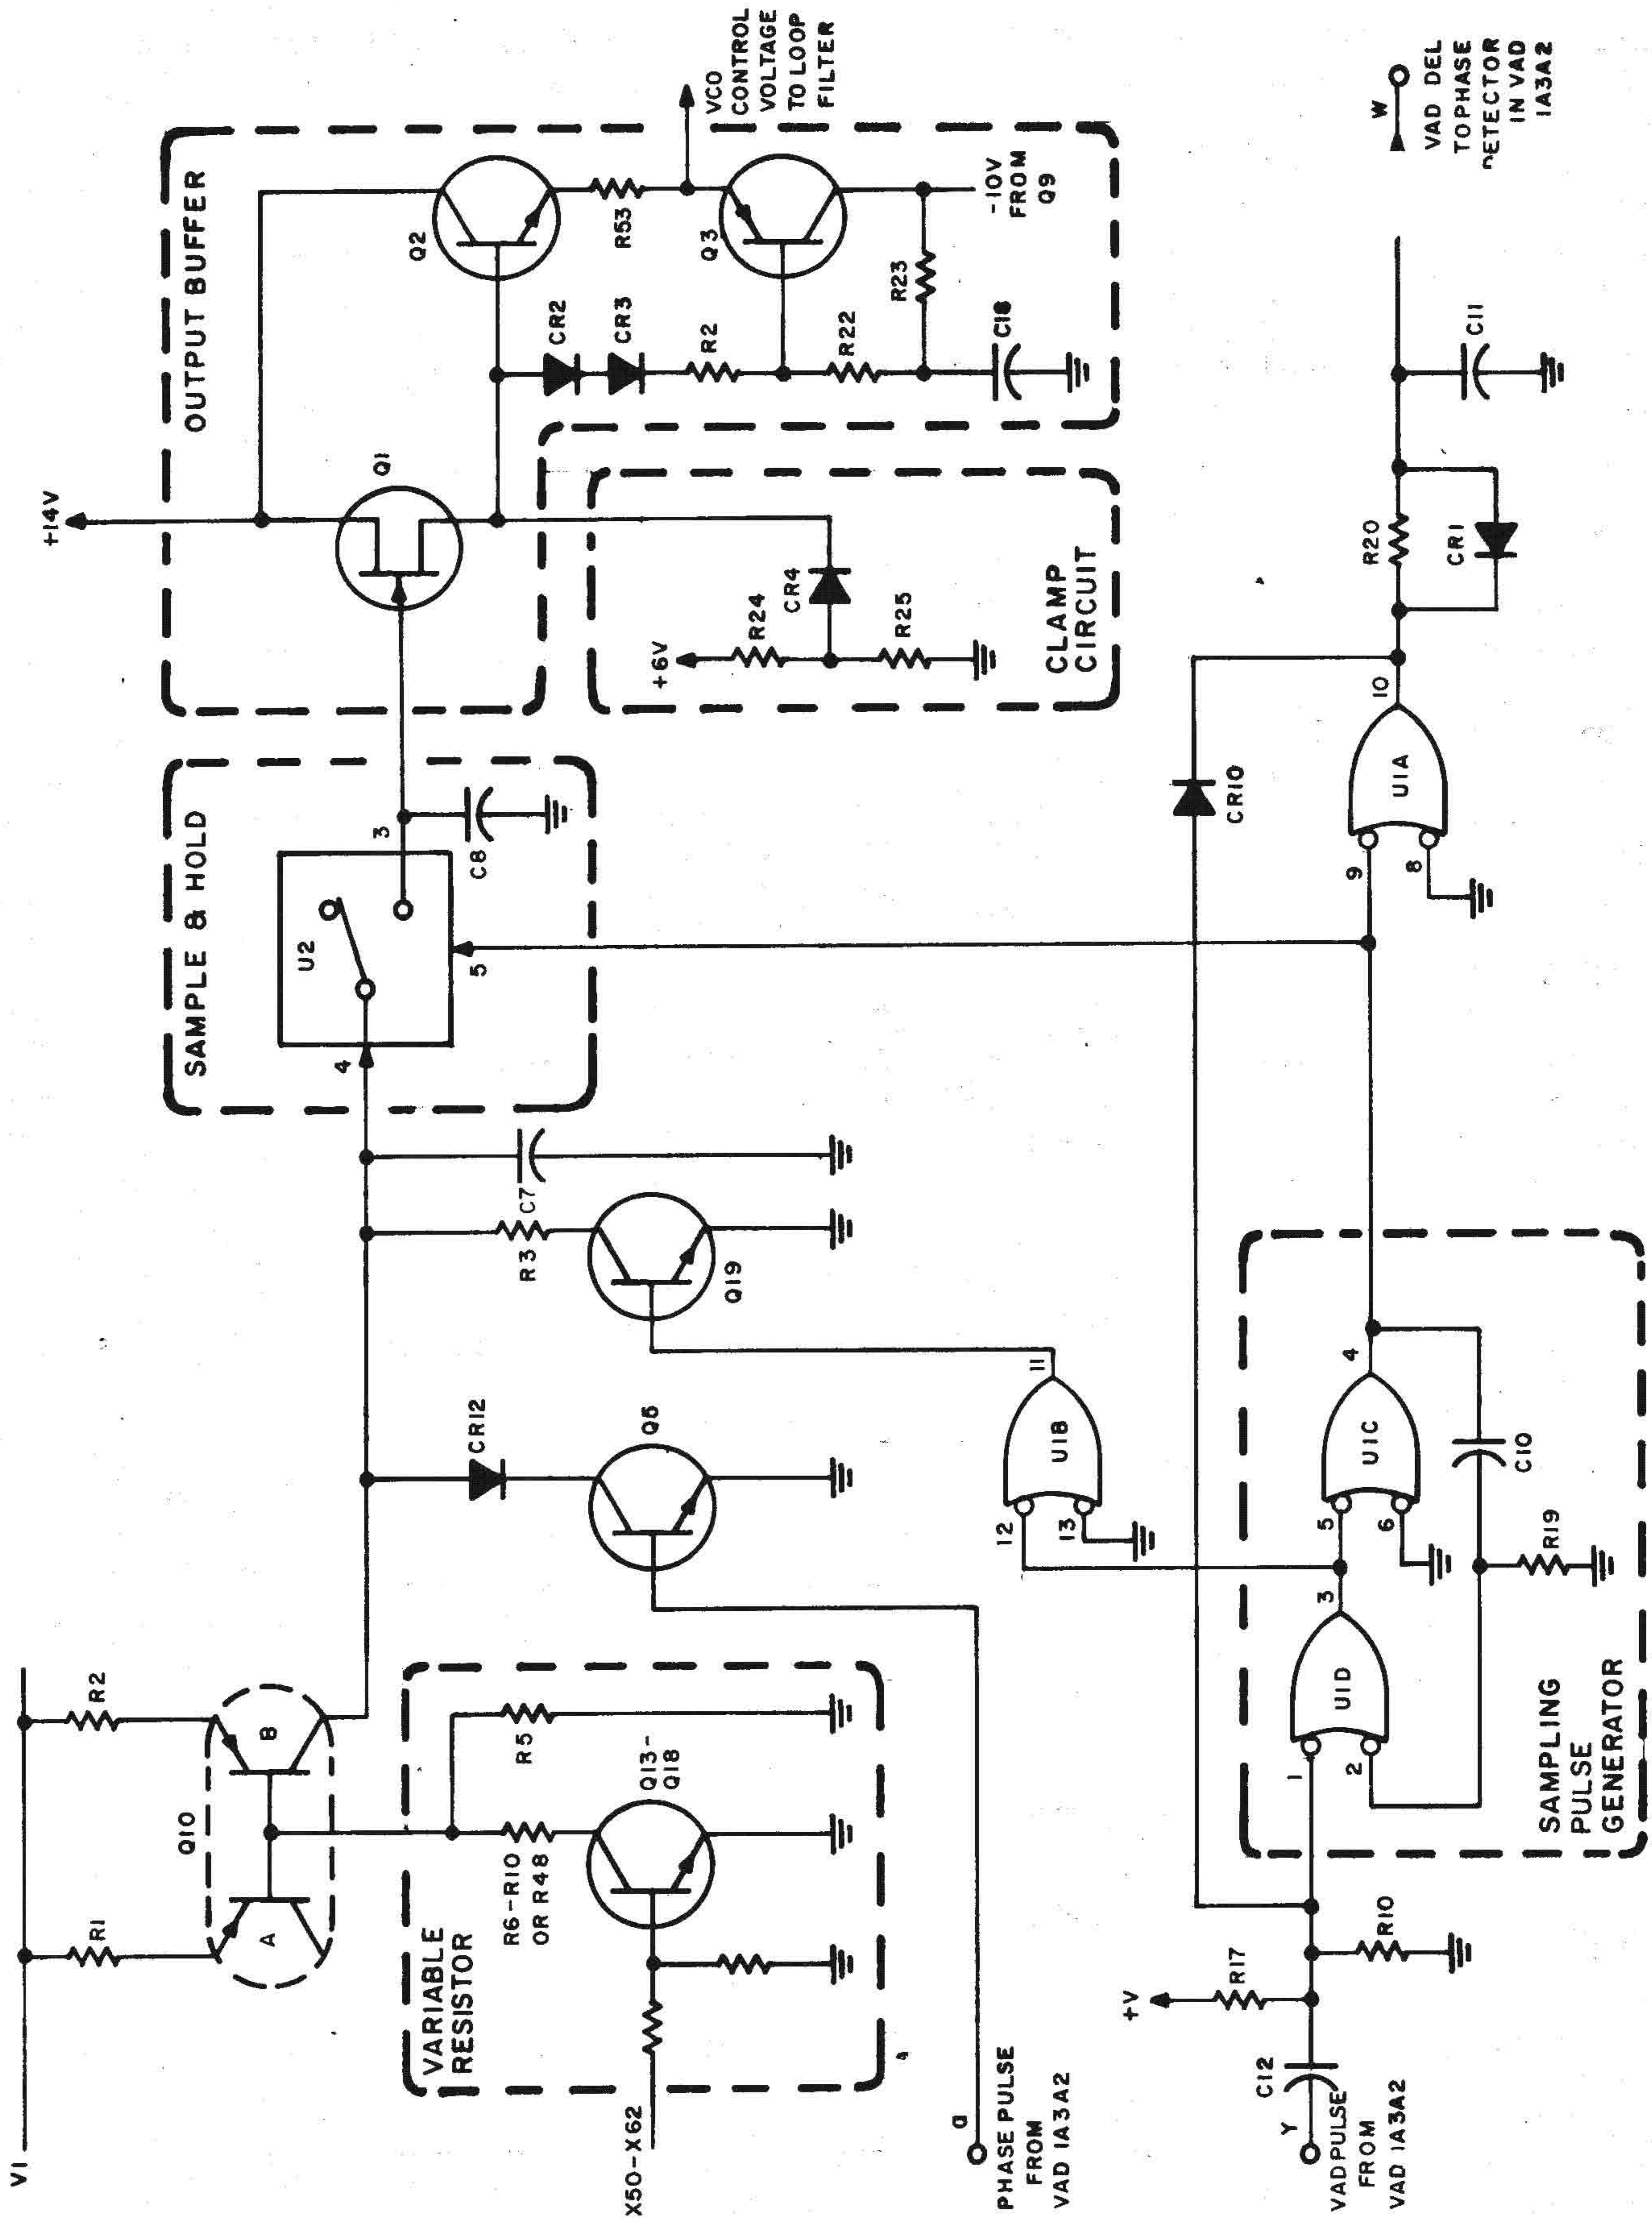

Fig. 2-67. Pulse-width-to-voltage converter, simplified circuit diagram
(8) Sampling pulse generator and associated circuits (fig. 2-67, 2-68). The sampling pulse generator consists of U1D and U1C, which form a monostable multivibrator. The monostable is triggered by the rise of the